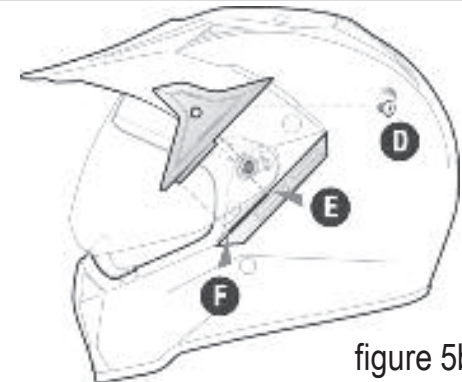

figure 5b
Place the visor on the mechanism so that the rotation housing (G) is inserted into the rotation ring (H). Place the cover above the visor to align the hole in the cover with the one on the shell (D Figure 5b).
Slightly loosen the middle screw located below the belt cover (D fig 5b).